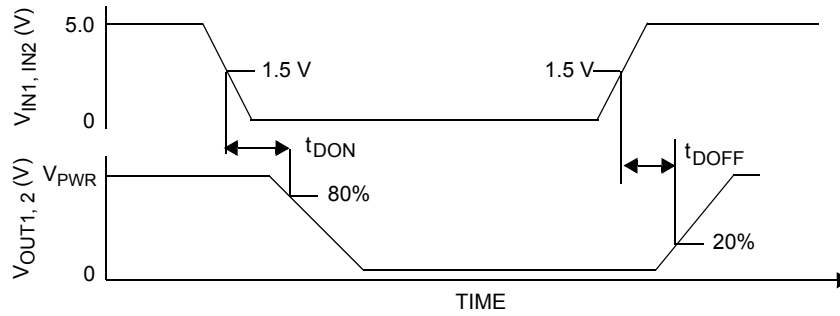

Figure 4. Output delay time
22. \* Output Delay is the time duration from 1.5 V on the IN1 or IN2 input signal to the 20% or 80% point (dependent on the transition direction) of the OUT1 or OUT2 signal. If the output is transitioning HIGH-to-LOW, the delay is from 1.5 V on the input signal to the 80% point of the output response signal. If the output is transitioning LOW-to-HIGH, the delay is from 1.5 V on the input signal to the 20% point of the output response signal. See Figure 4, page 10.